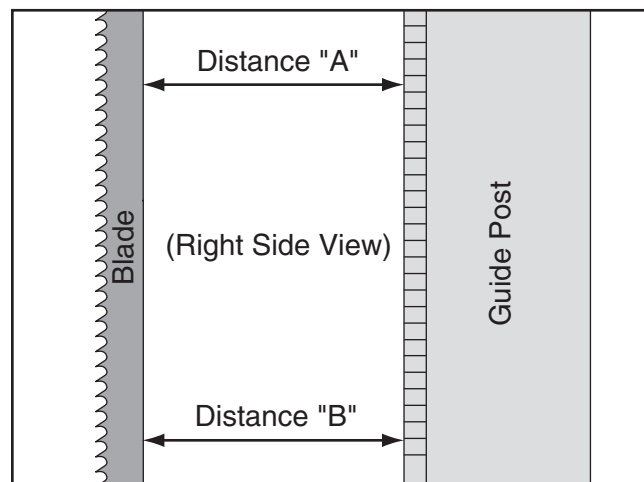

Figure 68. Example of measuring distance between rack and blade at top of guide post.
4. Measure the distance "A" between the top front face of the guide post rack and the back of the blade (see **Figure 68**).
5. Measure the distance "B" between the bottom front face of the guide post rack and the back of the blade (see **Figure 68**).